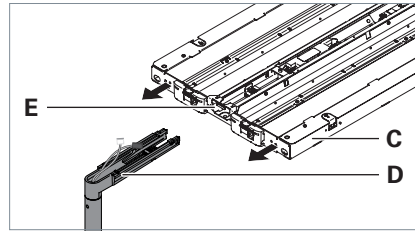

Fig. 2: Mounting the light head on the support arm.
- Slide the light chassis **C** onto the support arm **D** while passing the cables through the opening **E** on the side of the light chassis, see Fig. 2.